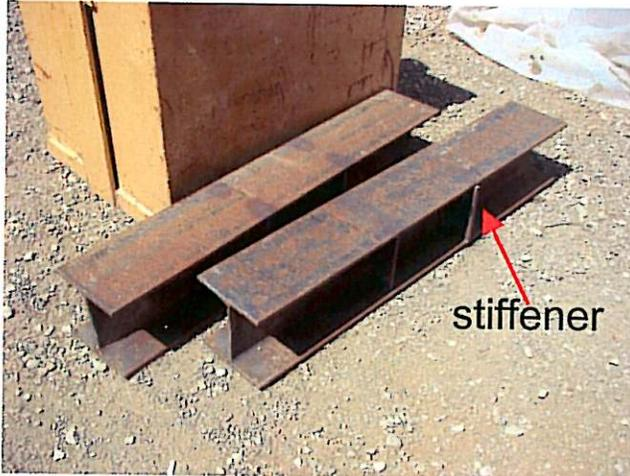

Fig 1. Beam with stiffeners
- Drill tech prepared a testing beam with stiffeners and a dial gage for testing, which will be held on Monday (Fig 1).